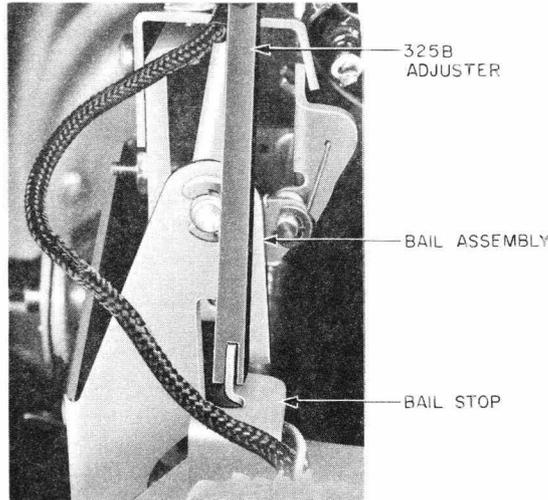

Fig. 15—Method of Adjusting Bail Stop Position
4.12 Bail Stop Position: If the clearance between the bail stop [Fig. 9(A)] and bail assembly in the operated position is not satisfactory, adjust the position of the stop as required using the 325B adjuster to bend the bail stop as shown in Fig. 15.